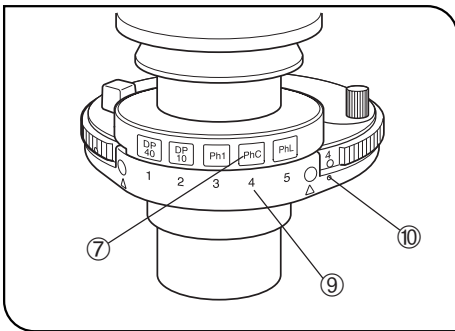

Fig. 39
6. Place the index ⑦ provided with each optical element in the index insertion hole having the same number ⑨ as the number of the position ⑧ in which the corresponding optical element is mounted. (Figs. 39 & 40)
⊙ The optical element with the number indicated by marking • ⑩ is engaged in the light path. (Fig. 39)